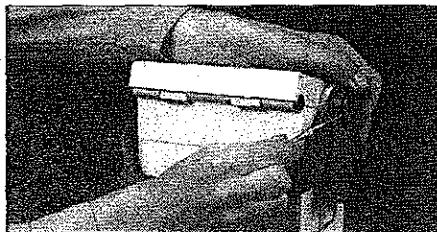

Figure 43
1. Remove the arm cap by inserting a small flat head jeweler's screwdriver between the arm cap and the arm as illustrated in Figure 43.